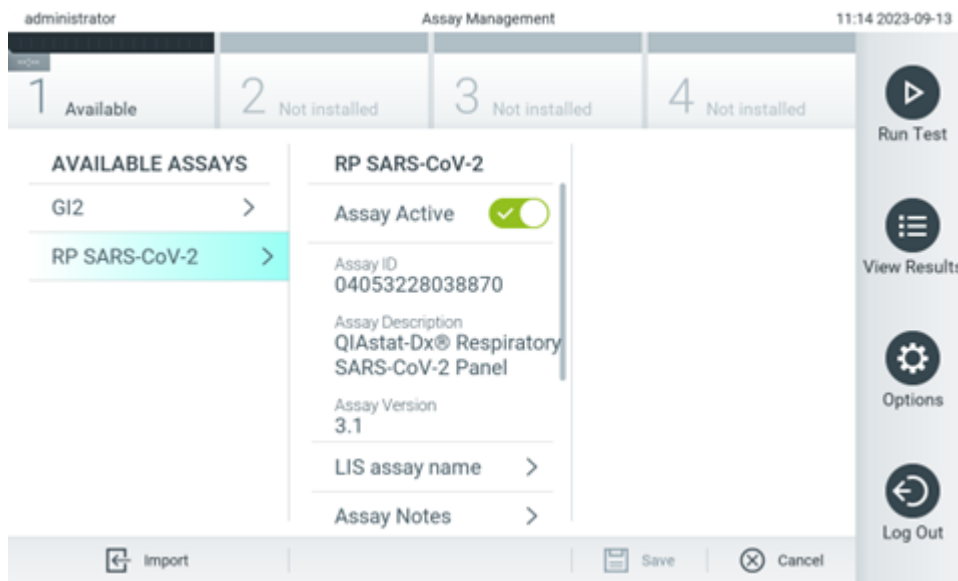

Figure 59. Activating the assay.
7. The assay becomes active by selecting Assay Active (Figure 59).